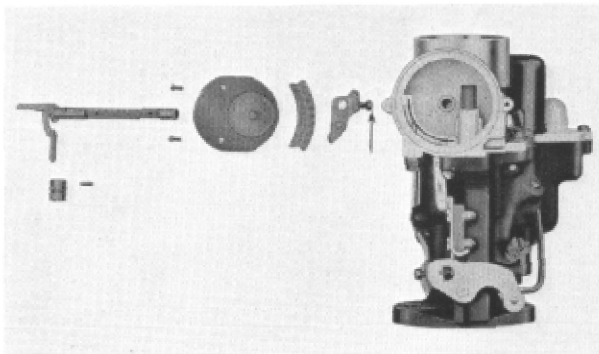

Figure 9
5. Remove choker piston lever, link and shaft assembly. Fig. 9.